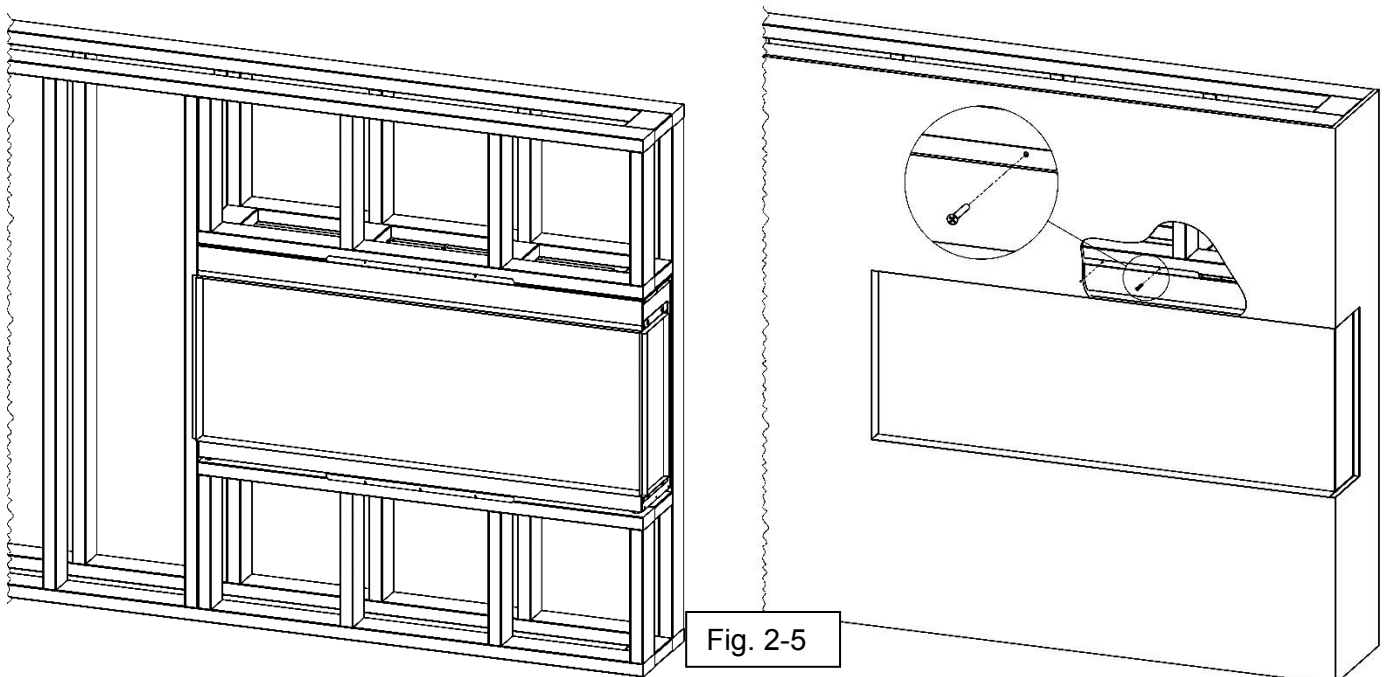

Fig. 2-5
- Fasten the fireplace to the framing using the “L” Metal Nailing Flanges and drywall screws that have a minimum length of 1-1/4" (Fig 2-5).